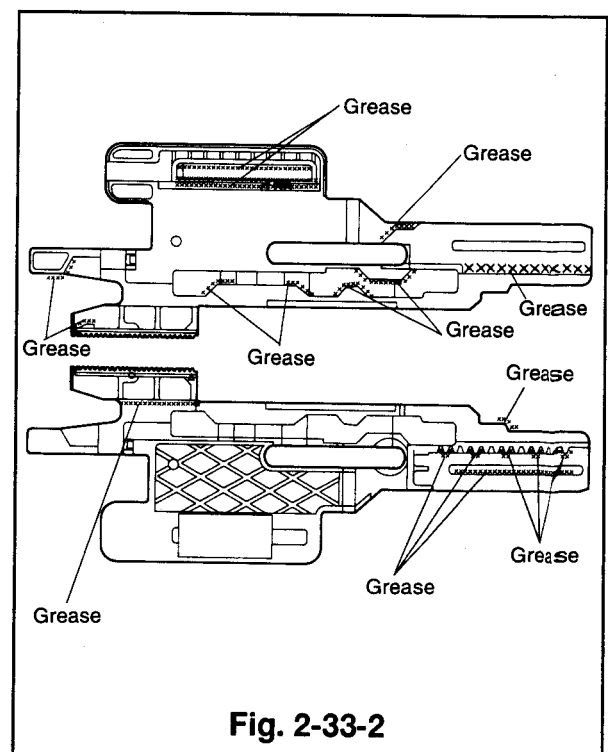

Fig. 2-33-2
- ① Apply grease (G) [859D055050] to the area shown in Fig. 2-33-2 of the new cam plate B.